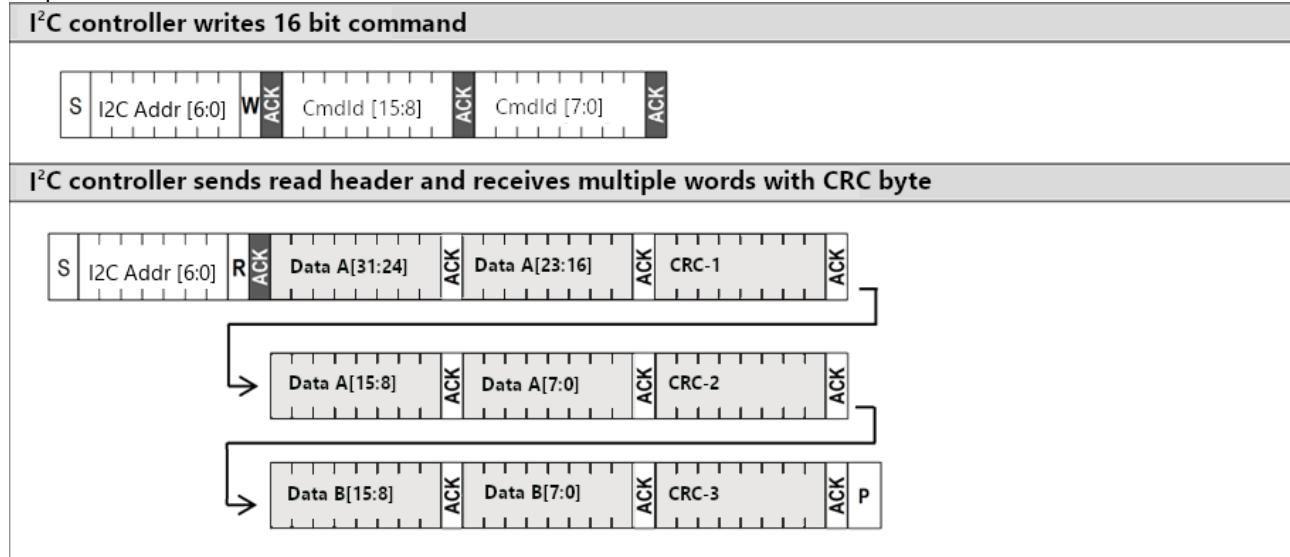

Figure 4. Example of I²C transfer.
The write, read and combined data transfer formats are visualized in **Figure 4**. Data and commands are transferred in multiples of 16-bit words, with the most significant byte (MSB) transmitted first. All transfers must begin with a start condition (S) and terminate with a stop condition (P). A sensor is addressed by sending its 7-bit I2C address, followed by an eighth data direction bit denoting the communication direction (W/R): "zero" indicates transmission to the target (i.e., "WRITE") and "one" indicates a request for data (i.e., "READ"). Data words (DATA1...X) are succeeded by an 8-bit checksum (cyclic redundancy check CRC-8, see **Section 3.4**). Command words (CMD) contain a 3-bit CRC. In the write direction, the checksum must be transmitted. In read direction, the master may abort transmission after any data byte by sending a not acknowledge (NACK) and a